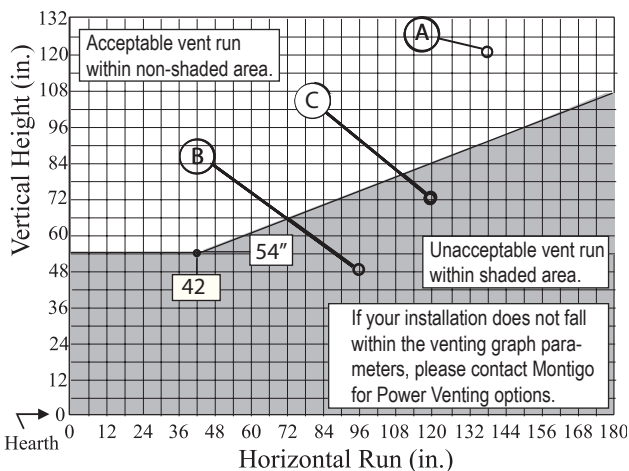

Figure 17. Side Vent Venting Graph for wall mounted terminations.
- Venting runs *must* fall within the limits set by the venting graphs, see **Figure 17**.
Measure the vertical height from the fireplace hearth to the centre of the termination and the horizontal run from the fireplace flue collar to the wall flange of the termination. Plot on the Venting Graph **Figure 17** with an 'X'. If the 'X' falls on or above the top boundary of the shaded area, the installation is acceptable.
Figure 17a. Straight run, Side Vented, wall mounted termination for L42DF-ST*. NOTE: STRAIGHT THRU-WALL MOUNTED TERMINATION NOT AVAILABLE IN THIS CONFIGURATION. See figure 17 (Vent Graph) & 17b for alternate configuration.
Figure 17b. Side Vented, wall mounted Multi-elbow termination installation. Installation for L42DF-ST must have a minimum vertical rise of 54". The vent run must comply with the Venting Graph for Side vent, wall mounted terminations, Figure 17.